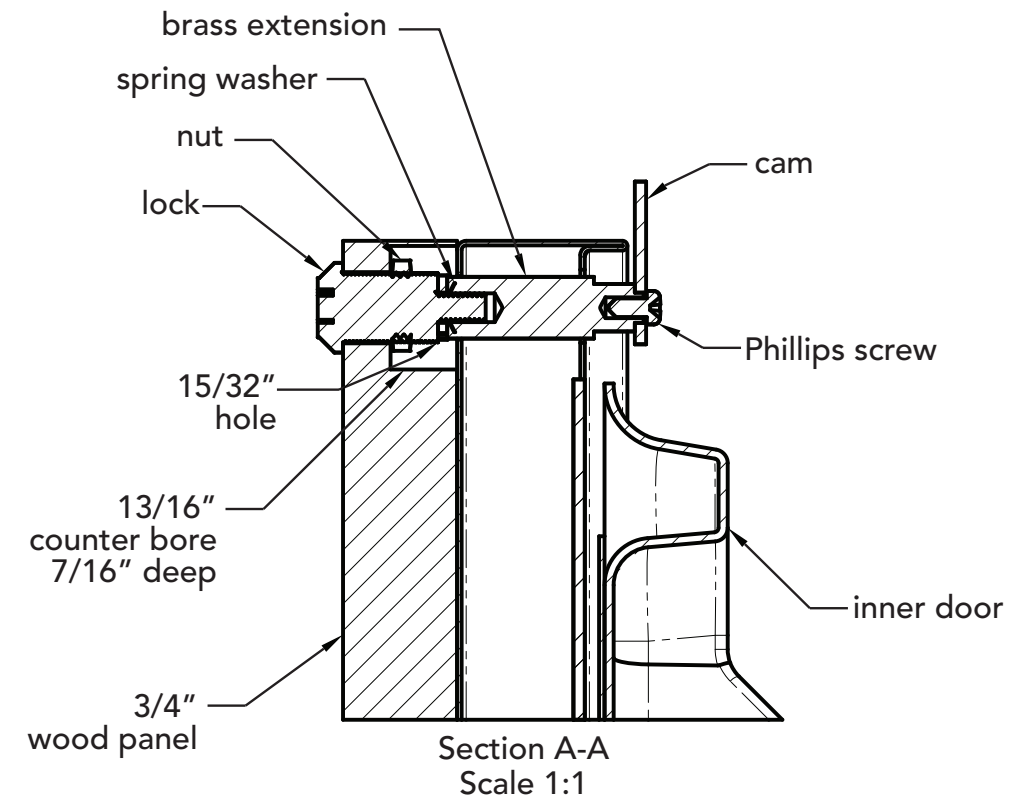

Figure 3
Locate and mark with a pencil the location of the lock hole on the overlay panel, this is the hole in the top corner of the handle side of the door. Remove the clamp and remove the overlay panel from the door. On the backside of the panel where you marked the lock location drill a 13/16" (20.5 mm) diameter counter bore 7/16" (11.0 mm) deep into the overlay panel. Drill a 15/32" (12.0 mm) diameter hole through the overlay panel centered on the counterbore being careful not to splinter the wood on the face side of the panel. (See Figure 3).
Two (2) lock extensions are supplied with the lock. Use the longer extension for a 3/4" thick overlay panel and the shorter one for a 5/8" thick panel. Assemble the lock extension, cam stop washer, spring washer, and set screw to the lock as shown in Figure 3 and 4.